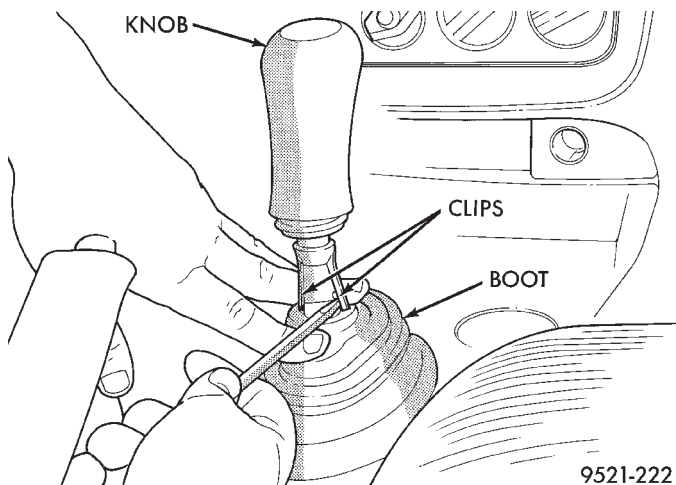

Fig. 185 Gearshift Knob
(3) If the vehicle is equipped with a manual transmission remove the gearshift knob and shifter boot using the following procedure.
- Push shifter boot down to expose clips on gearshift knob and roll pin on shifter handle (Fig. 185).
- Pry the clips on the shifter knob away from the roll pin in the shifter handle using a flat blade pry tool (Fig. 185).